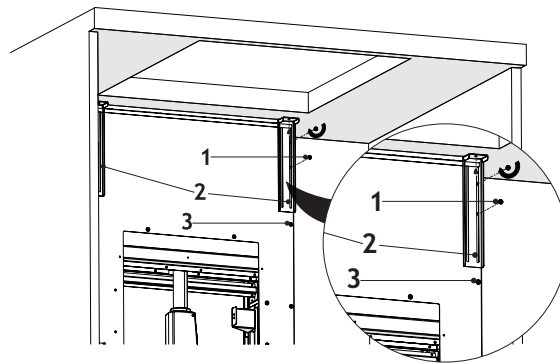

Fig. 18
5. → Install the housing from the upper side using 2 short brackets supplied in installation accessories (Fig. 18)